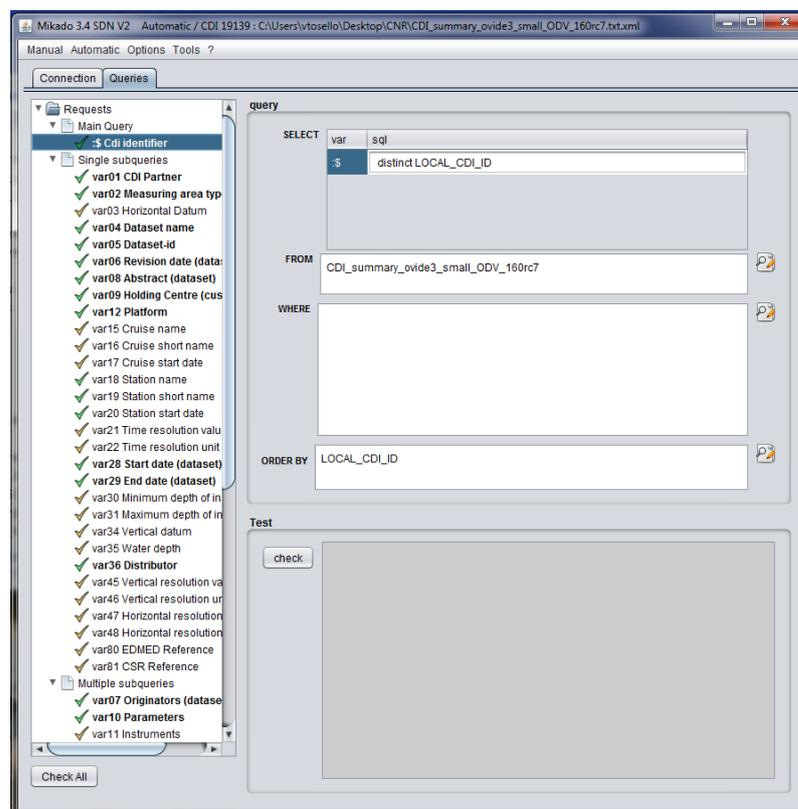

Figure 150 : Queries automatically fulfilled by MIKADO
- MIKADO creates automatically a configuration file, with all queries on the NEMO export file as presented in Figure 150 (If a configuration already exists, MIKADO ask the user if he wants to override the existing configuration file).